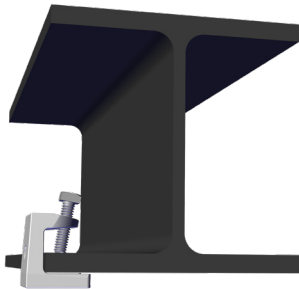

Figure 17. Beam clamp attached
3. One or two clamps may be used to suspend the horn. One clamp in the center position is shown in Figure.17.